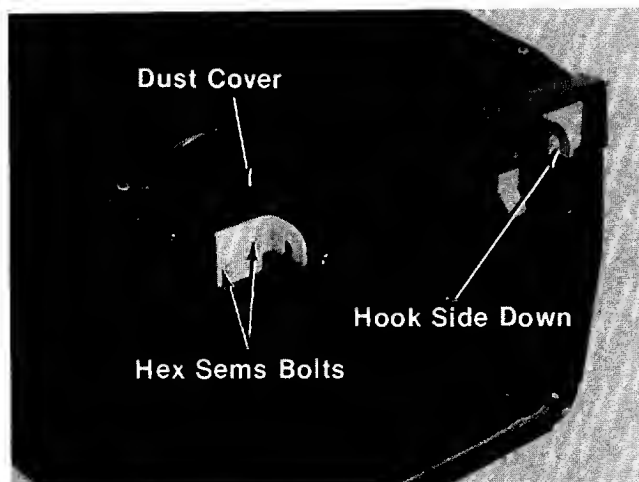

FIGURE 19.
7. Place dust cover (AD) in position on top front of catcher. Place right and left hand hinges (W) in position and secure with hex sems bolts (R), lock washers (S) and hex nuts (T). See figure 19.